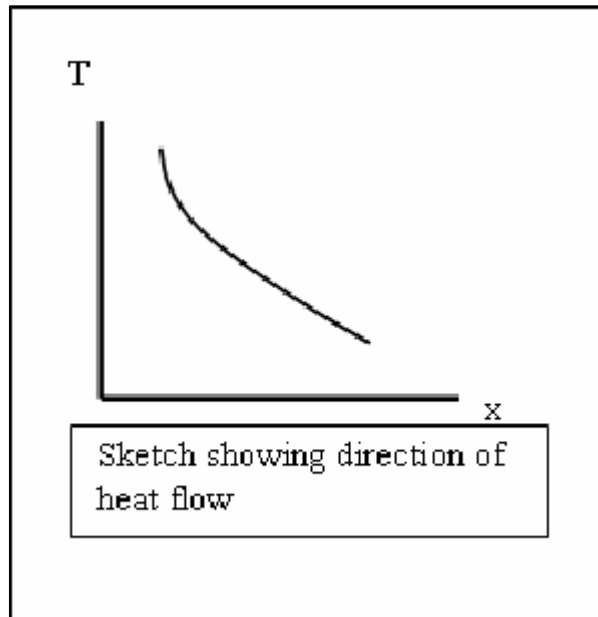

Figure 6.1: Sketch showing direction of heat flow
- The positive constant k = thermal conductivity of the material. The minus (-) sign is inserted so that the second principle of thermodynamics will be satisfied i.e. heat must flow downhill on the temperature scale as indicated in Figure 6.1.